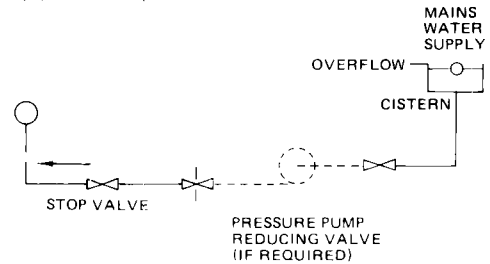

Fig 7
- ii) where access to a make-up vessel would be difficult by using the mains top up method or a remote automatic pressurisation and make-up unit as illustrated in FIG. 7 METHODS 1 and 2.
The system shall be fitted with a filling point at low level which incorporates a stop valve to BS1010 and a double check valve (approved by the National Water Council) to be fitted in this order from the system mains, Refer to FIG. 7. Method 1.